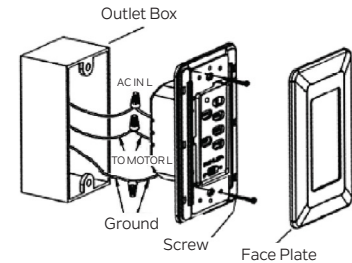

Fig. 20
**Step 2.** Install the wall control to the outlet box, connecting the wires with wire connectors provided. (Fig. 20)